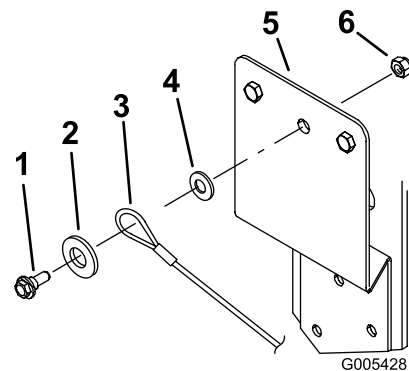
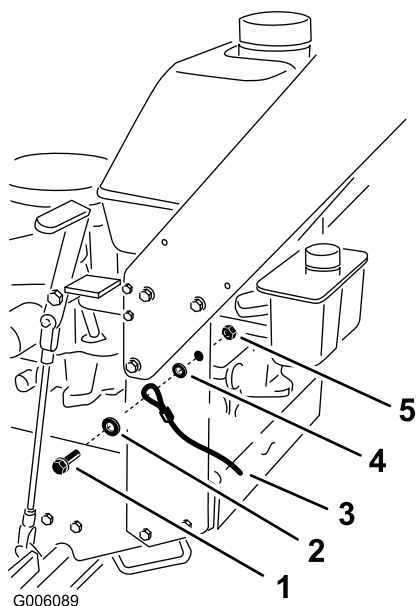

Figure 14
Figure 15
Note: The machines with T2 handles do not need a hole drilled into the side of the machine for installing the lanyard. Proceed to item 6 in this step to install the lanyard (Figure 15).
6. Install the shoulder bolt, washer (1/2 inch), lanyard, washer (3/8 inch), and locknut (5/16 inch) to the pulley guard (Figure 14 and Figure 15).
Note: When the lanyard is attached to the machine, it must not be able to be removed (Figure 14 and Figure 15).